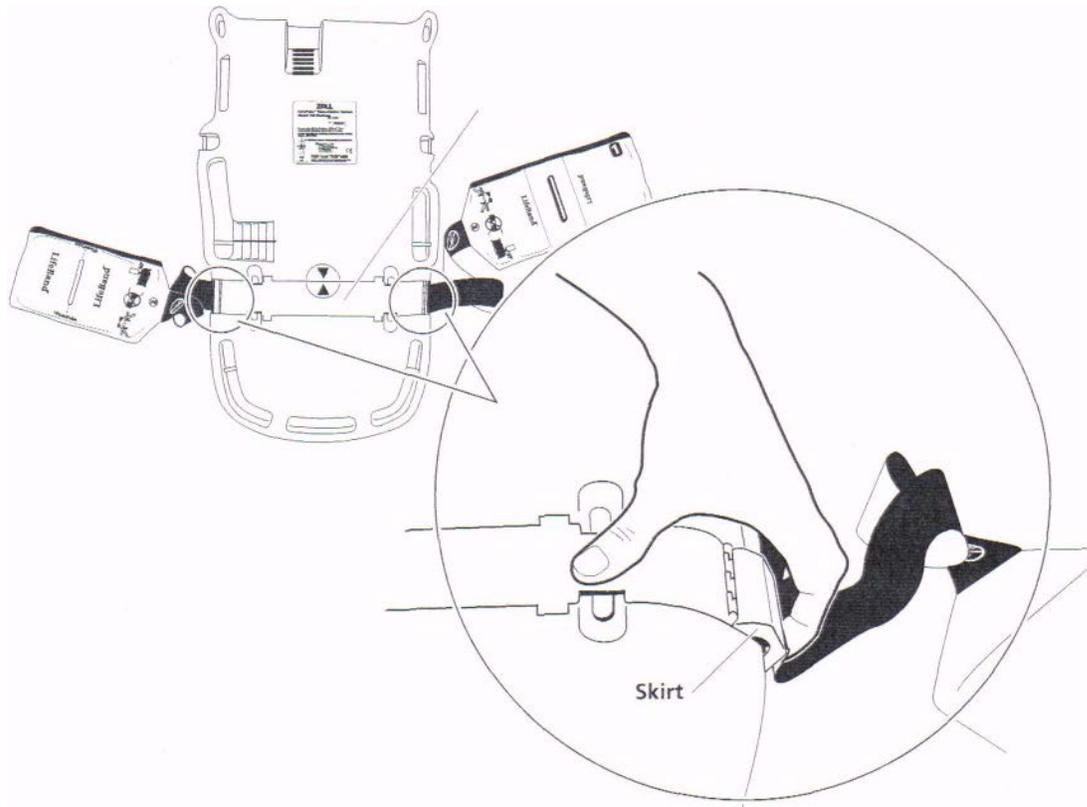

Figure 2-5 Flip Up the Hinged Skirts of the LifeBand® CCA
2. Flip up the hinged skirts of the LifeBand cover plate to disengage the LifeBand chest bands from the rollers (see Figure 2-5). You will hear the skirt "snap." This is normal.